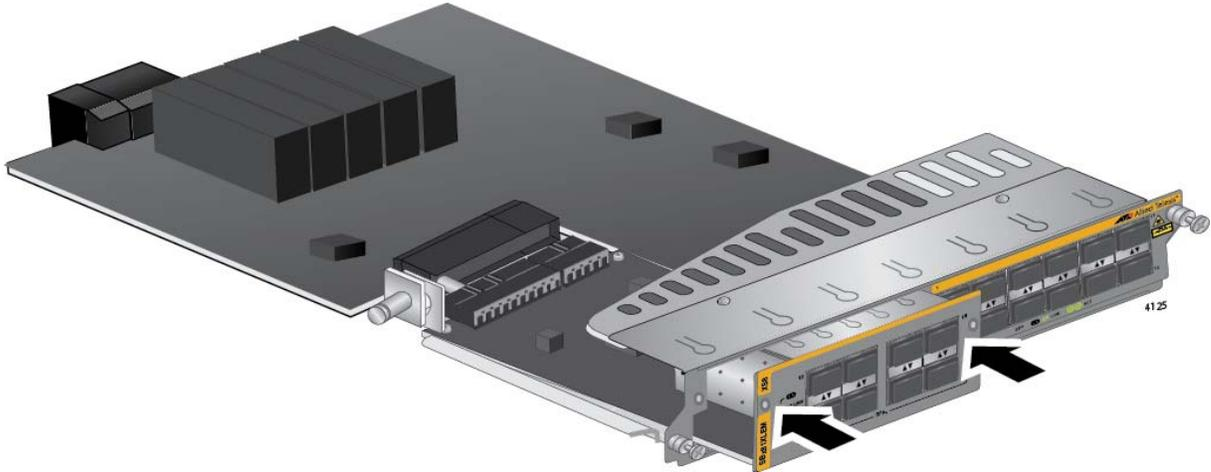

Figure 79. Seating the Expansion Module on the Connector in the AT-SBx81XLEM Line Card
- When the expansion module makes contact with the connector inside the line card, gently press on both sides of the faceplate to seat the module on the connector. Refer to Figure 79 on page 143. The module is fully installed when its faceplate is flush against the faceplate of the AT-SBx81XLEM Line Card.